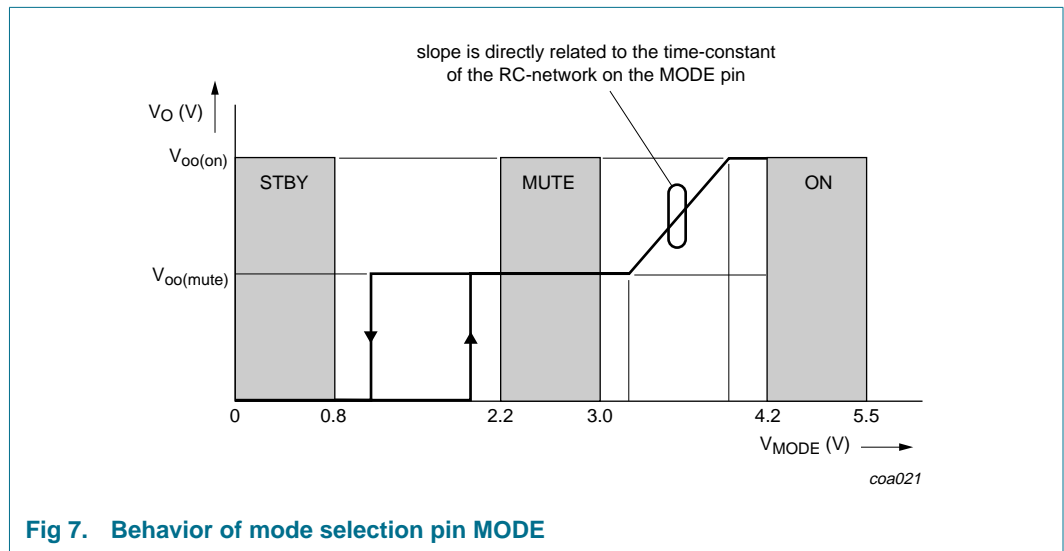

Fig 7. Behavior of mode selection pin MODE
- [3] The transition between Standby and Mute mode has hysteresis, while the slope of the transition between Mute and Operating mode is determined by the time-constant of the RC-network on the MODE pin; see Figure 7.